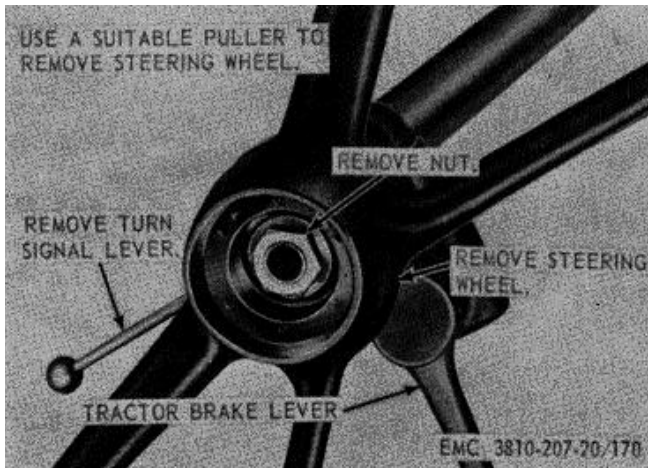

Figure 170. Steering wheel, removal and installation.
- (1) Remove the horn button assembly (par. 226).
- (2) Remove the steering wheel as instructed on figure 170.
- (1) Install the steering wheel as illustrated on figure 170.
- (2) Install the horn button assembly (par. 226).